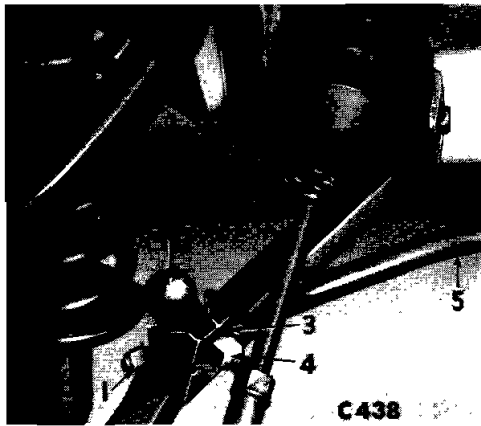

Fig. 9. Anti-roll bar attachment to lower wishbone
5. Disconnect the anti-roll bar link (2) from the lower wishbone (Fig. 9).
5. Re-connect the anti-roll bar link (2) to the lower wishbone and secure with a washer (3) and nyloc nut (4), Fig. 9.
3. Remove the grease cap, split pin (62), slotted nut (61) and washer (60), then detach the hub assembly from the stub axle (52). Dismantle the hub as described on page 4-116.
4. Release the tabwasher (48) and remove four bolts, tabwasher, washers and nyloc nut securing the steering arm (28), brake backing plate (47), or caliper mounting bracket and dust shield to the vertical link (18).
5. Remove nyloc nuts (14) and bolts (11) securing the inner ends of the upper wishbones to the sub-frame.
6. Release the anti-roll bar from the lower wishbone (Fig. 9). Remove nyloc nuts (29) and washers (30) and detach the lower wishbone brackets (32) from the chassis frame. Note the number and disposition of the shims (31).